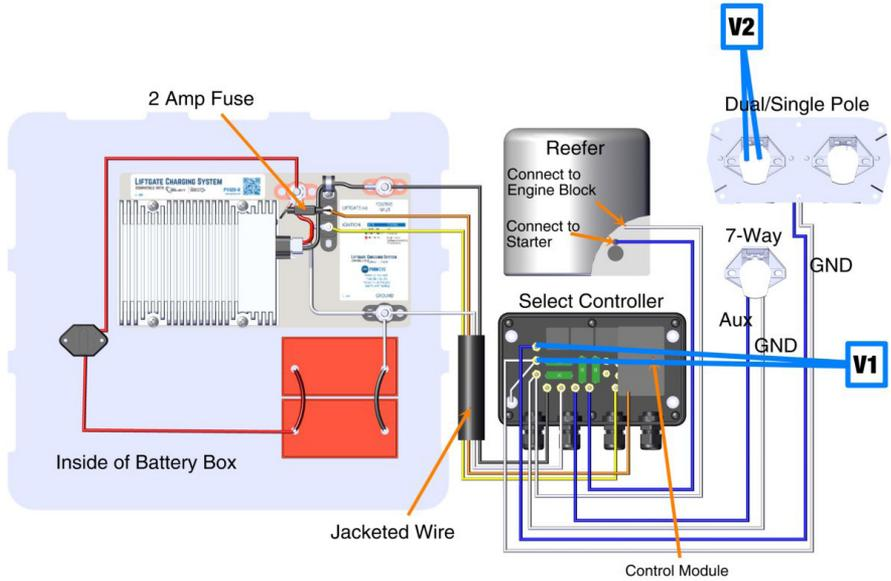

Figure 9
**Step 1:** With the stinger cord still plugged in, and the tractor running, use a voltmeter to measure the voltage between the dual pole positive stud and the dual pole negative stud inside the Select Controller (see V1 in Figure 9). It should read 13.2 volts or greater. If yes, and the light still is not solid green, call customer service, as the Select Controller or Control Module may be defective. If no, proceed to step 2.
**Step 2:** With the stinger cord still plugged in, and the tractor running, use a voltmeter to measure the voltage between the positive and negative poles in the stinger receptacle (see V2 in Figure 9). It should read 13.8 volts or greater. If yes, repair or replace the wiring between the stinger and the Select Controller. If no, measure the voltage at the truck battery. If the reading is greater than 13.8 volts, the issue is the wire from the stinger to the truck. If the reading is less than 13.8 volts, the issue is the charging system of the truck; allow the battery to charge or repair the charging system on the truck.